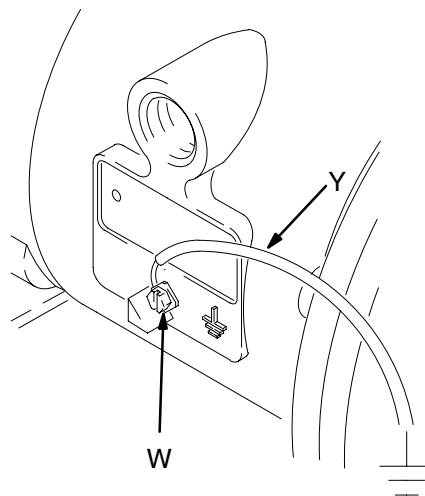

Fig. 1
*Polypropylene and PVDF* are **not** conductive. Attaching the ground wire to the grounding lug grounds only the air motor. When pumping conductive flammable fluids, **always** ground the entire fluid system by making sure the fluid has an electrical path to a true earth ground. See Fig. 1.
- **Pump:** Connect a ground wire and clamp as shown in Fig. 1. Loosen the grounding screw (W). Insert one end of a 12 ga (1.5 mm2) minimum ground wire (Y) behind the grounding screw and tighten the screw securely. Connect the clamp end of the ground wire to a true earth ground. Order Part No. 237569 Ground Wire and Clamp.